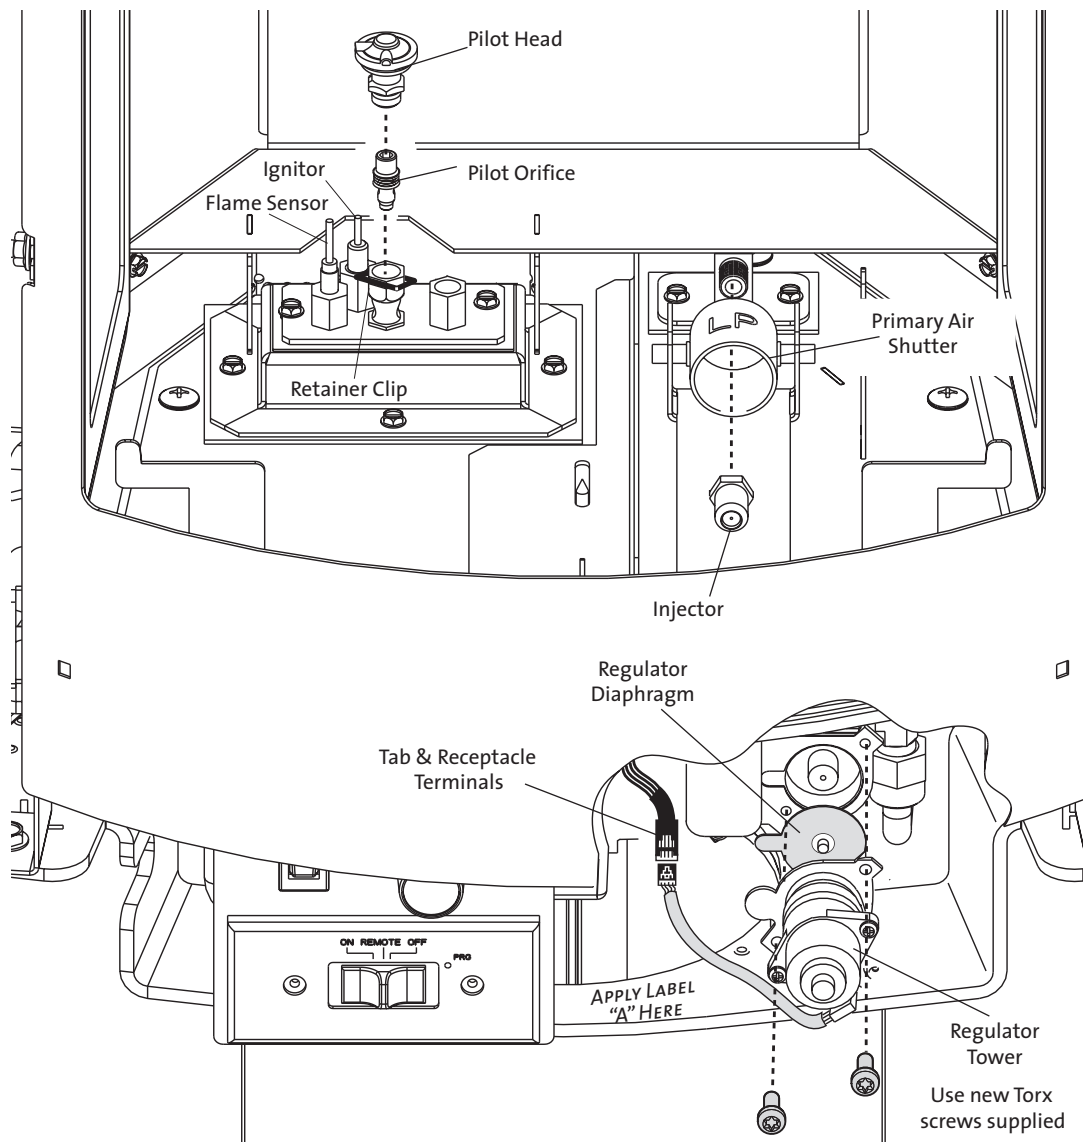

Figure 23. Fuel conversion components and assemblies
5. Locate the main burner injector. See fig. 23 on page 17. Slide the Air Shutter out of the way and use a 1/2" open end wrench or deep-well socket to remove the burner orifice from the brass orifice holder. Replace with the orifice supplied in the kit. Tighten securely.
7. Change the Pilot Orifice. Pull the Pilot Hood off of its base. It will snap by the retainer clip shown in Fig. 23.
9. Replace the variable regulator. Using a Torx T-20 screwdriver, remove the two specialty screws from the regulator tower on the front of the valve. Note: To help identify which screws to remove, refer to the new regulator in the kit. See fig. 23.